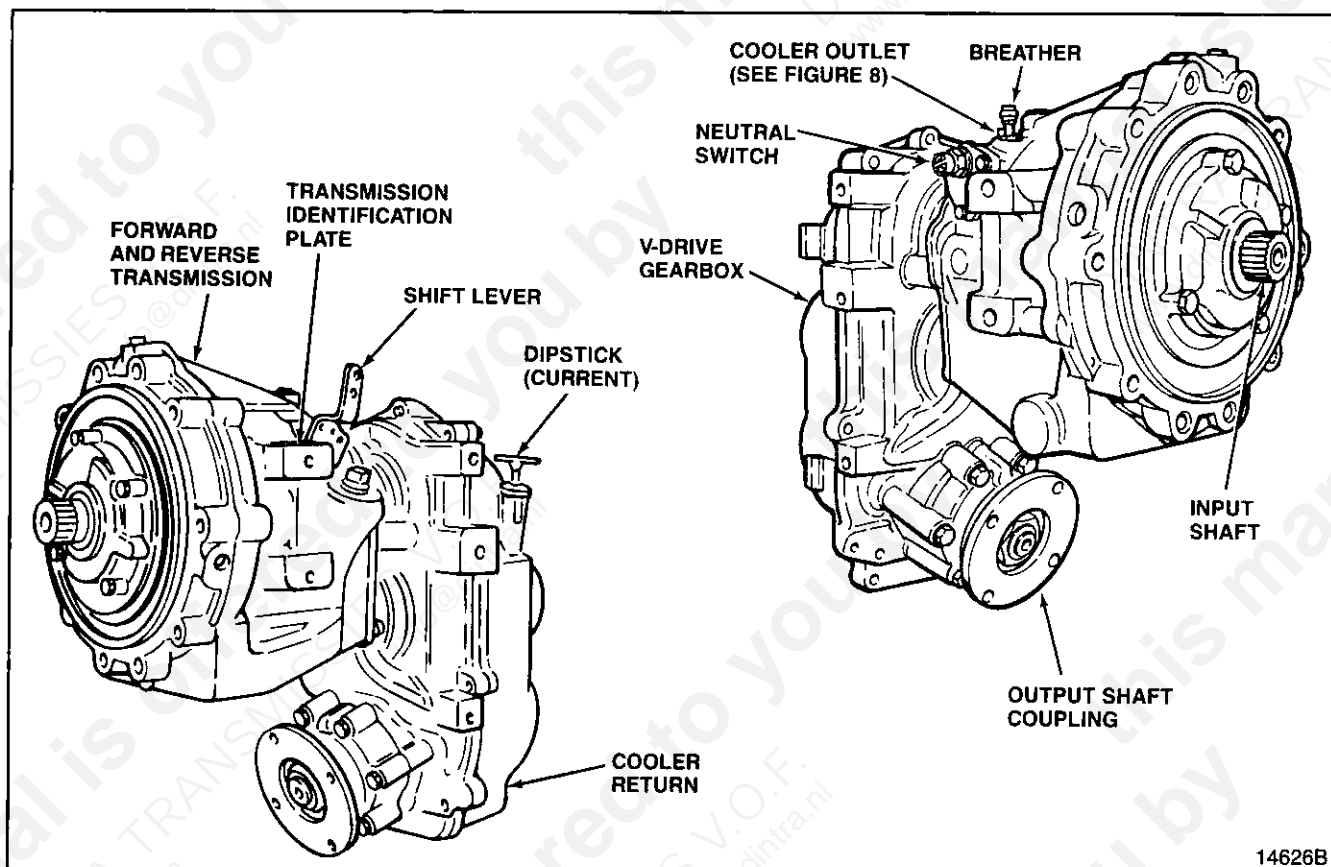

Figure 1. 71C and 72 C V-Drive Transmission Assembly
A. INTRODUCTION (See Figure 1).